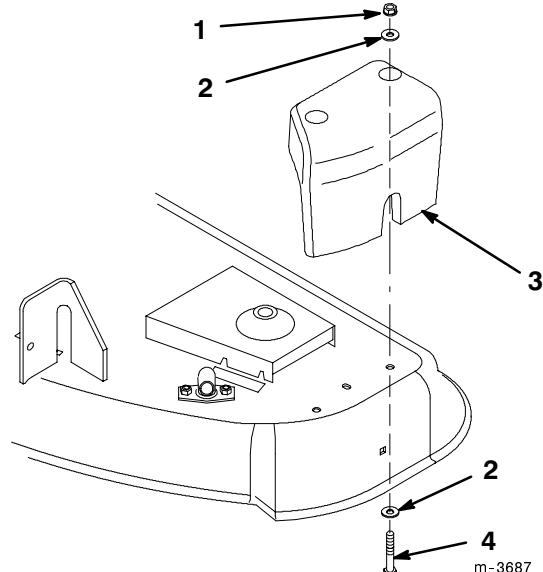

Figure 31
- Install (2) 3/8 x 3/4" (19 mm) bolts and (2) 3/8" locknuts in the open holes of the mower for safety (Fig. 31).
- Remove the counterweight from the left-hand side of the mower (Fig. 31).